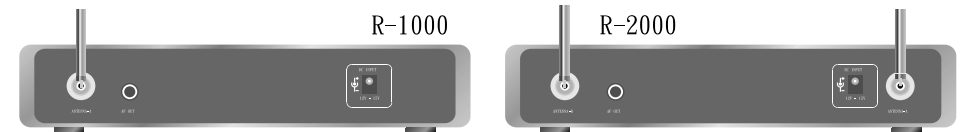

Fig. 1.
1.Install an antenna perpendicularly to the antenna input jack ⑤ at the rear panel of the receiver , as shown in Fig. 1.